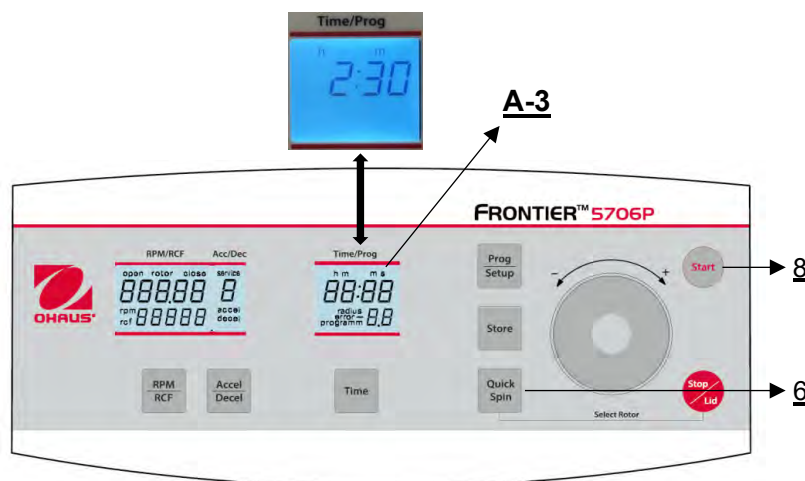

Figure 25
You can start the centrifuge either with the **"Start"** key (8) (see Figure 25) or the **"Quick Spin"** key (6). By the **"Start"** key (8) you can start stored runs or runs with manually pre-selected parameters.